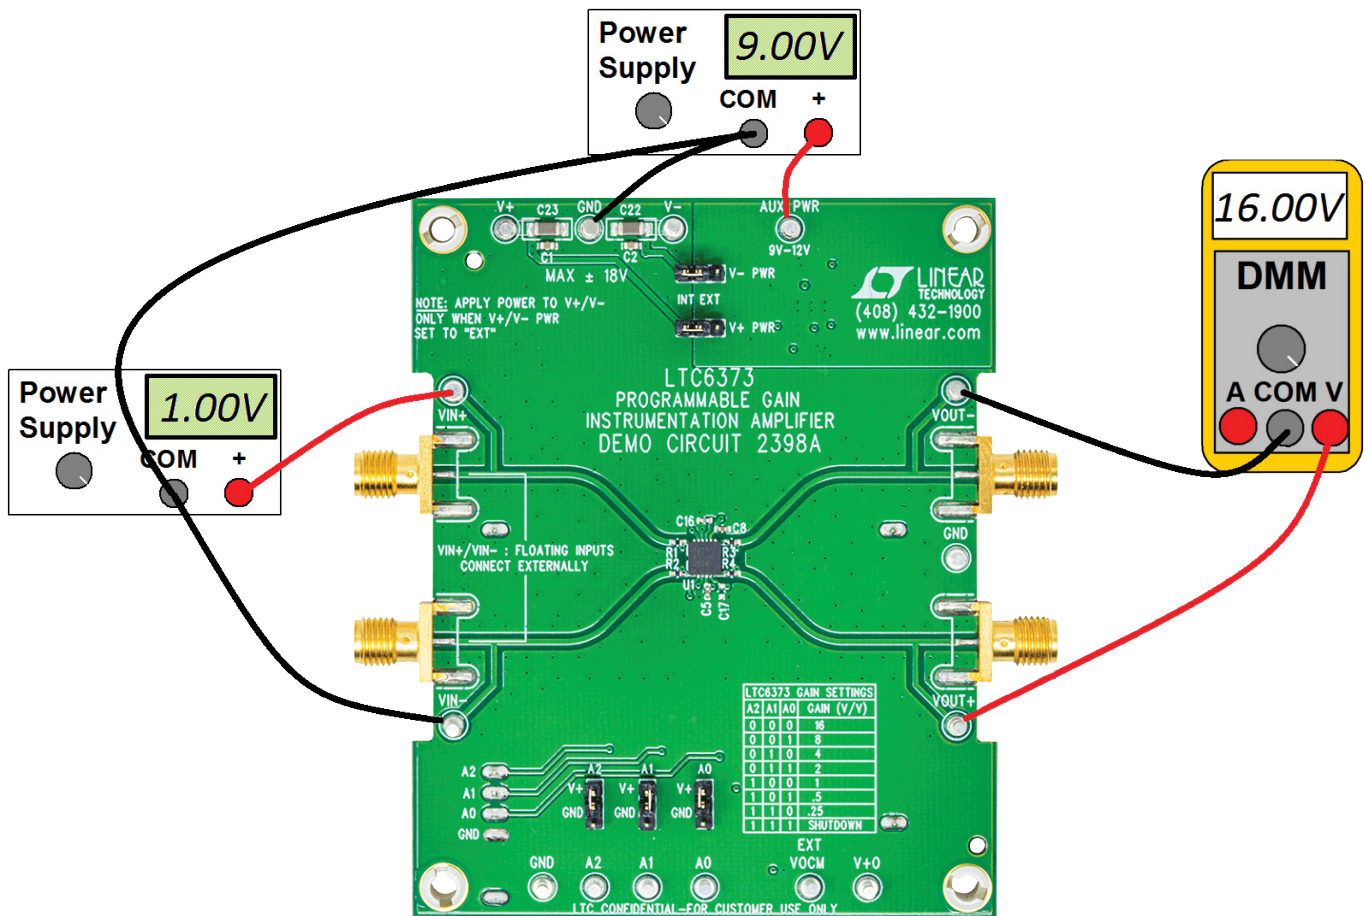

Figure 1. Quick Connection
- See Figure 1 for a minimal effort initial hook-up of the board. To adapt to specific needs, read the Hardware Configuration section.